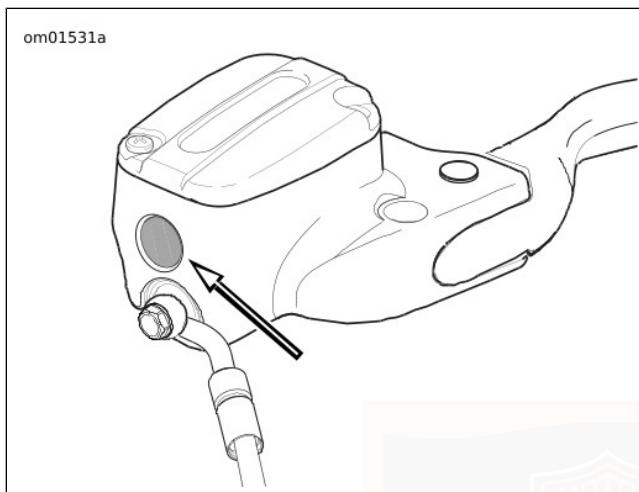

Figure 36. Clutch Reservoir Sight Glass
2. See Figure 36. View reservoir sight glass. Sight glass appears dark if fluid is present. If the entire sight glass is not dark, then proceed to the next step.